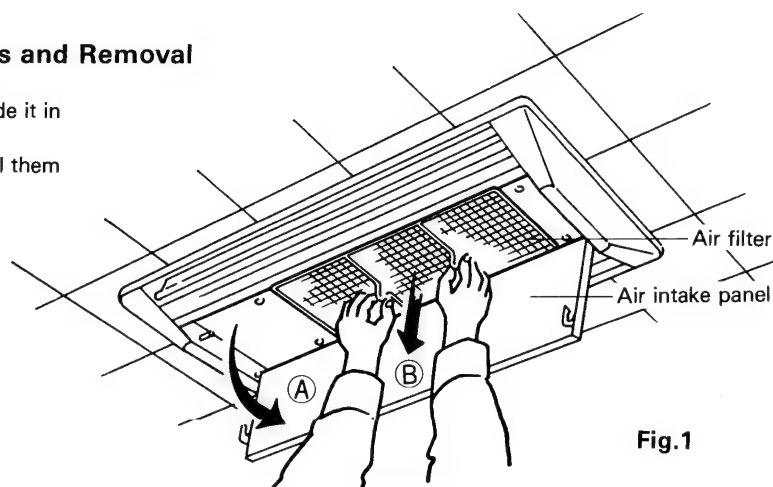

Fig.1
- ① Lift the air intake panel slightly upward and then slide it in the direction shown by arrow (A).
- ② To remove the air filter, grasp the filter tabs and pull them downwards (arrow (B)). Fig.1